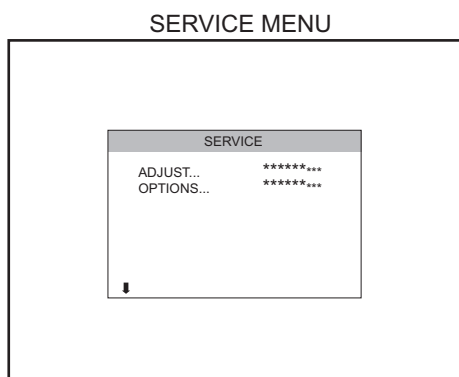

Fig.1
- (1) Press the INFORMATION key and MUTING key simultaneously, and the SERVICE MENU 1 screen will be displayed. (Fig.1)